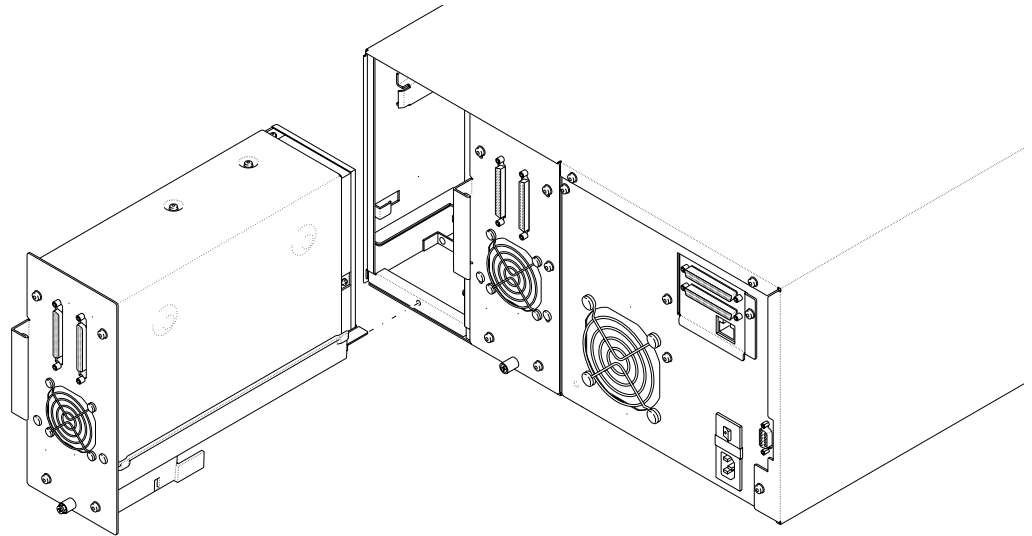

Figure 5 Sliding a tape drive into the library (221L shown)
1. Insert the tape drive so that the handle is at the left and the fan is at the bottom, as shown in Figure 5. The tape drive should slide easily toward the front of the library.